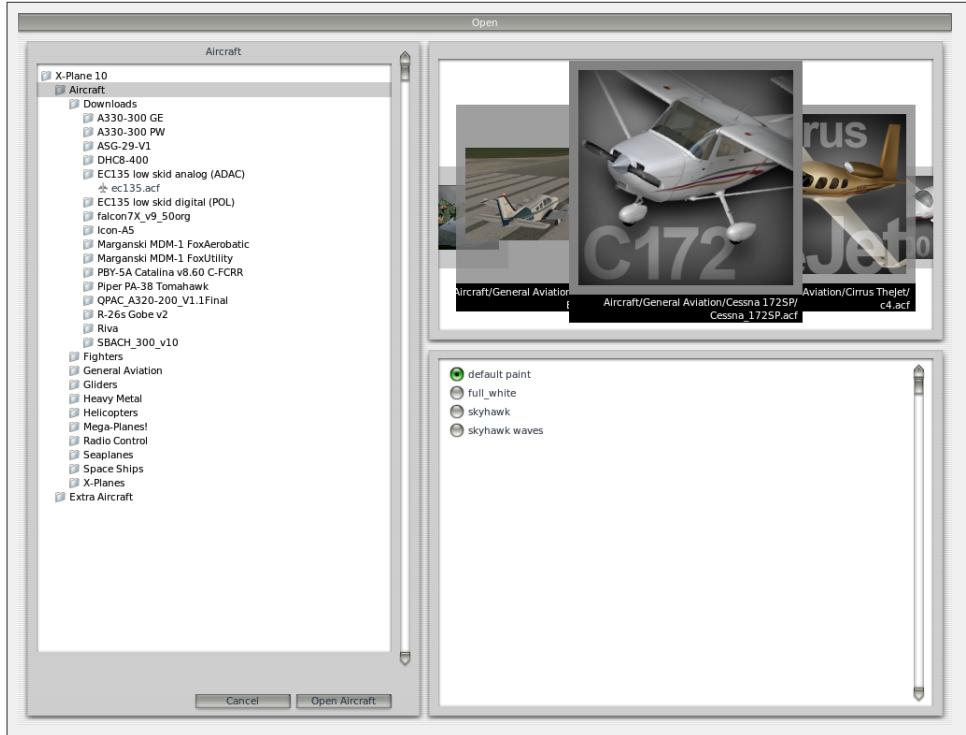

Figure 5.2: Selecting the Open Aircraft dialog from the Aircraft menu [Full size →]
3. The Open Aircraft dialog appears, as seen in Figure 5.2. In the left half of this dialog box is a display of the X-Plane directory and its subfolders. To the right is a “cover flow”-type display of all the aircraft contained in whichever directory is selected in the left-hand pane. You can scroll through this cover flow view using your mouse’s scroll wheel—whichever aircraft is foremost in that view is the one selected.